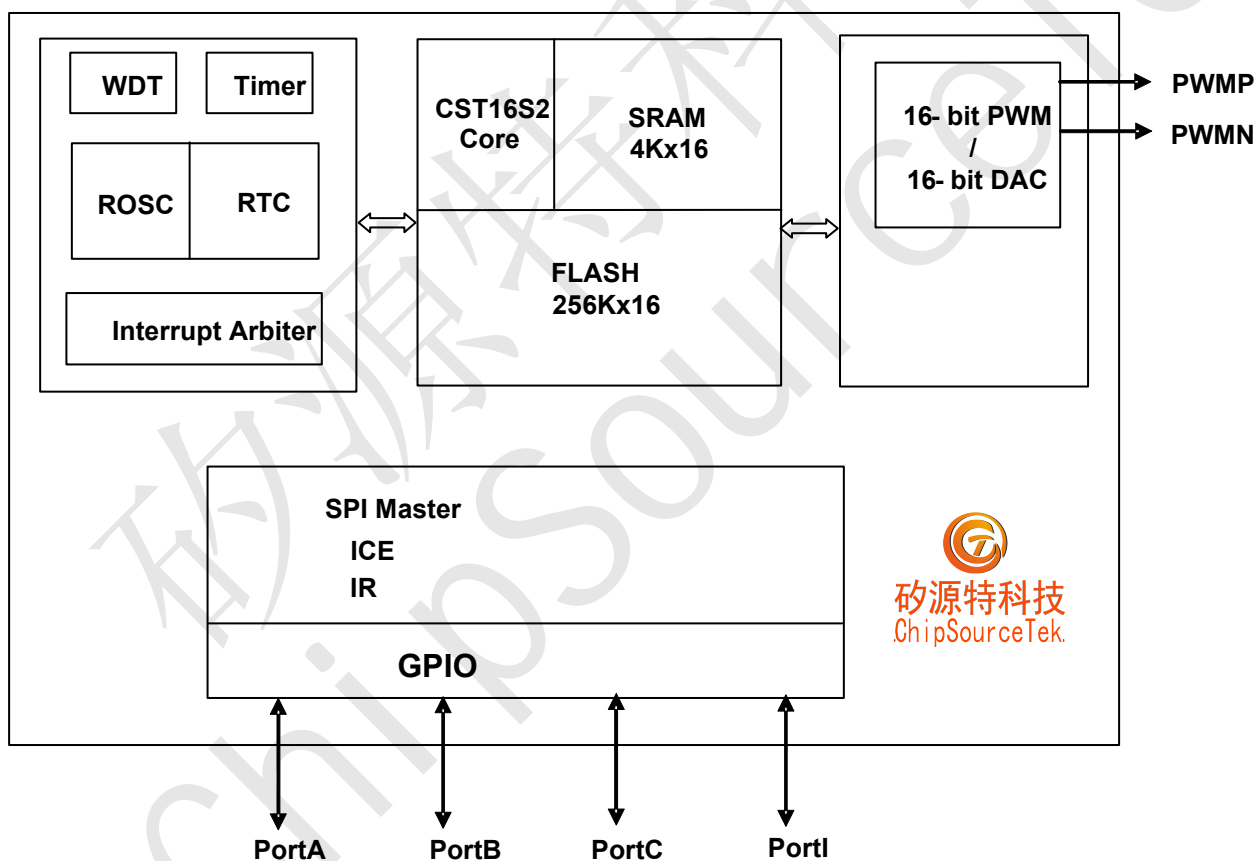

Figure 4.1
As shown in the block diagram in Figure 4.1, the CST16S2 is a 16-bit data width processing capability and all instructions are operated in one cycle except parameter data ROM(PM) access. The CST16S2 not only provides general arithmetic such as addition, subtraction, shifter, normalize, and other logical operations, but it also involves circular buffer operations for complexity digital signal processing.